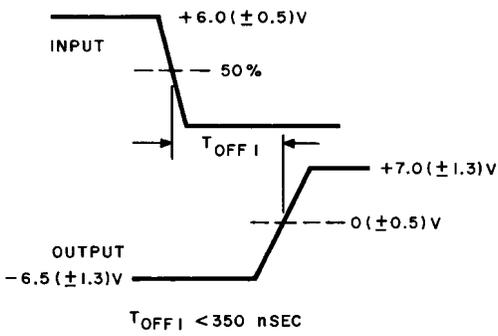

Fig. 45A — EIA Interface Test
- (1) Set the EXT SYNC TRIGGER to (-) negative.
- (2) Repeat 7.10A (1), (2), and (3). Input-output waveforms shall be as specified in Fig. 45A, 46A, and 47A, respectively.